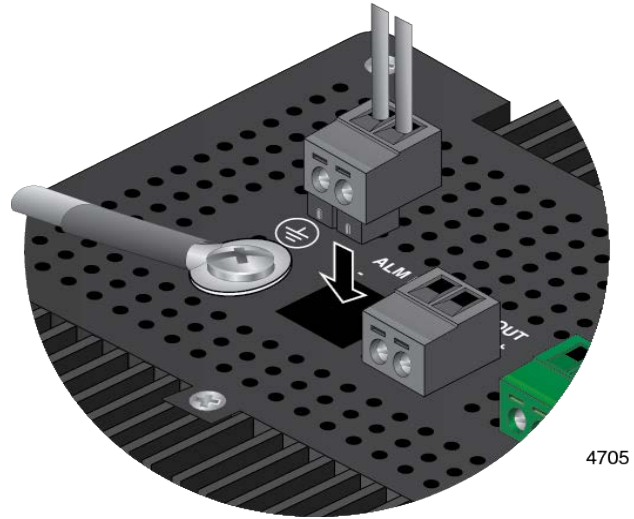

Figure 54. Inserting the DC Connector into the Alarm Connector
7. Insert the alarm connector back into its connector on the switch. Refer to Figure 54 on page 106.